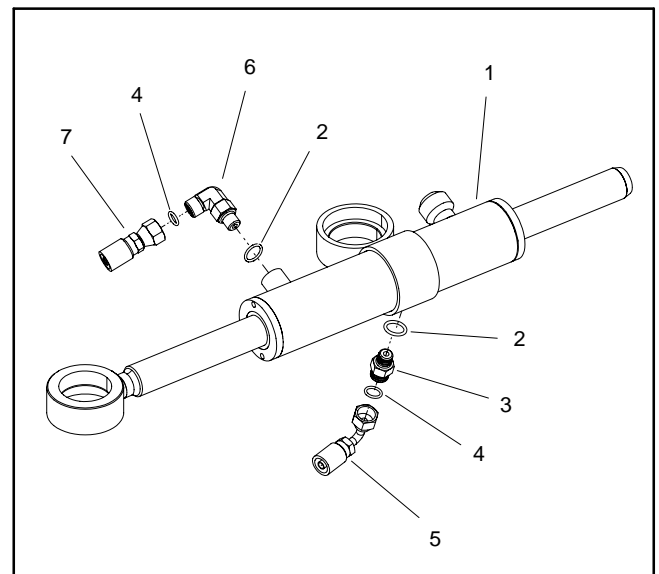

Figure 41
5. If hydraulic fittings are to be removed from steering cylinder, mark fitting orientation to allow correct assembly. Remove fittings from cylinder and discard O-rings (Fig. 41).